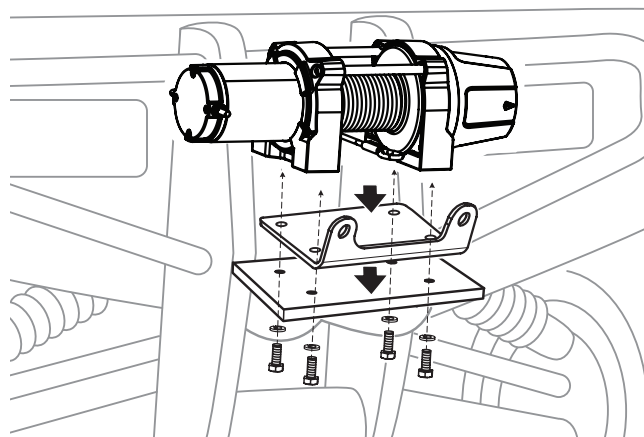

Figure 4
5. Mount fairlead to fairlead plate (6) using hardware in winch kit.
6. Place winch into position and slide fairlead/fairlead plate assembly under the winch (above winch mount and under winch). See Figure 4.